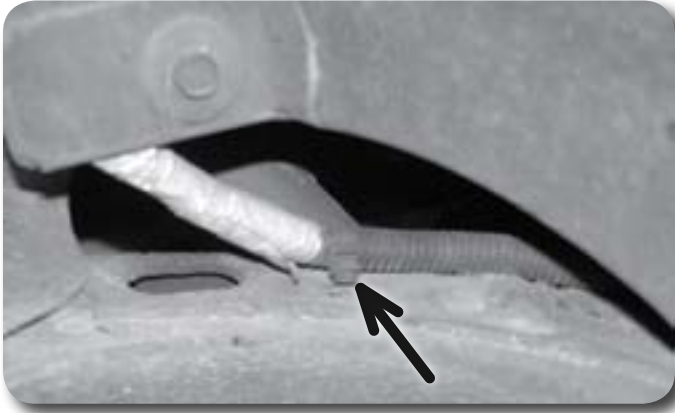

Figure 22
25. Remove the wire harness from the plastic retaining clip on the driver's side frame rail **Figure 22**.